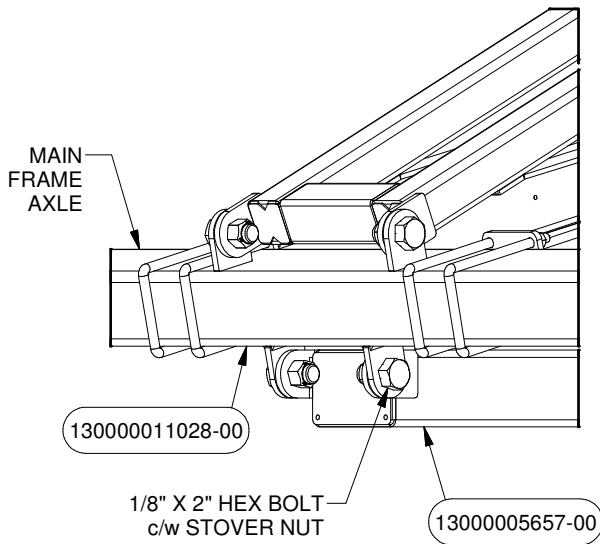

FIGURE 53
6. Attach the Mover Frame PN# 5657 to the Main Frame using Hex Bolts c/w Stover Nut as shown in Figure 53.